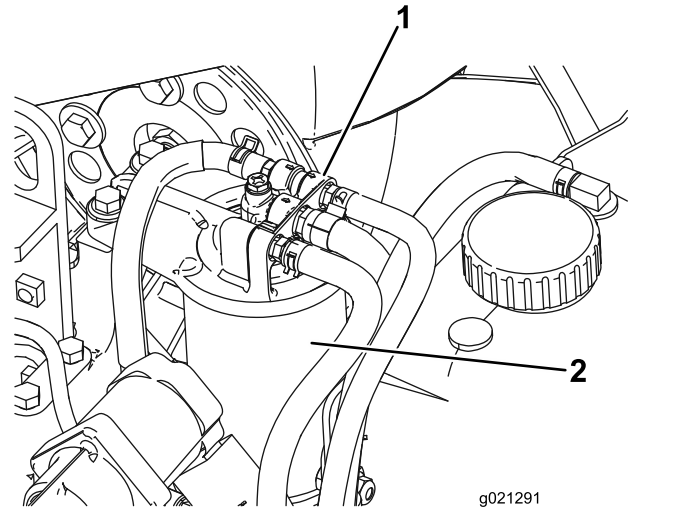

Figure 80
1. Clean the area around the fuel filter head (Figure 80).
2. Remove the filter and clean the filter head mounting surface (Figure 80).